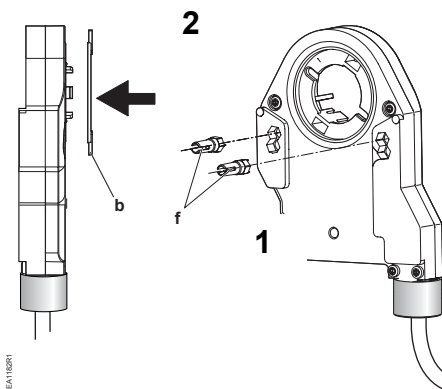
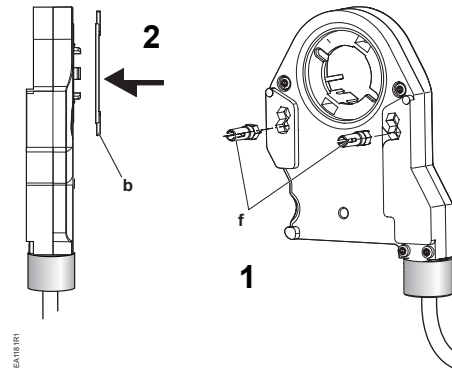

Figure 8. For GMA/GEB Actuators, Use Top Screw Holes.
Figure 9. For GCA, GBB, GIB Actuators, Use the Bottom Screw Holes.
2. On the back of the EAS, push the plastic inserts into the mounting holes. (See Figure 8 and Figure 9).
3. Mount the position indicator on the face of the EAS (See Figure 8 step 2 and Figure 9, step 2).